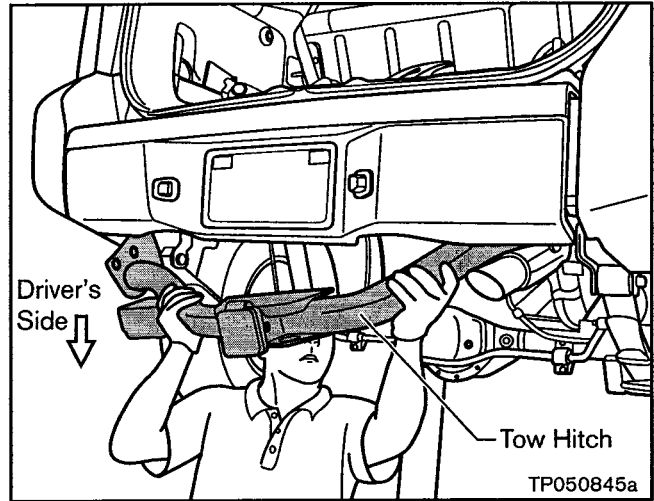

Figure 11
11. Remove the Tow Hitch from the vehicle (see Figure 11).